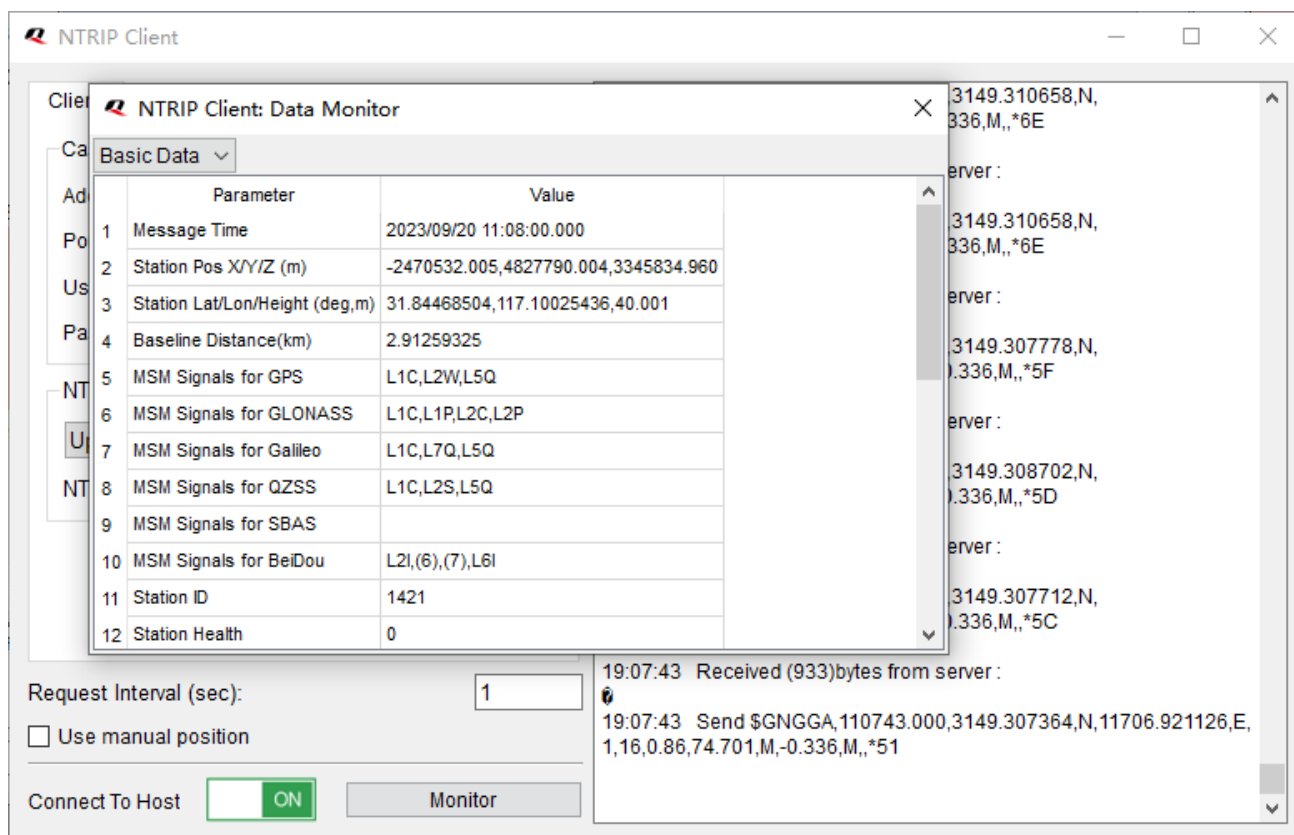

Figure 28: RTK Data Monitor
Step 7: Click “**Monitor**” button to open the “**NTRIP Client: Data Monitor**” window where you can view the differential correction data sent by the server, as shown in Figure 28: RTK Data Monitor.